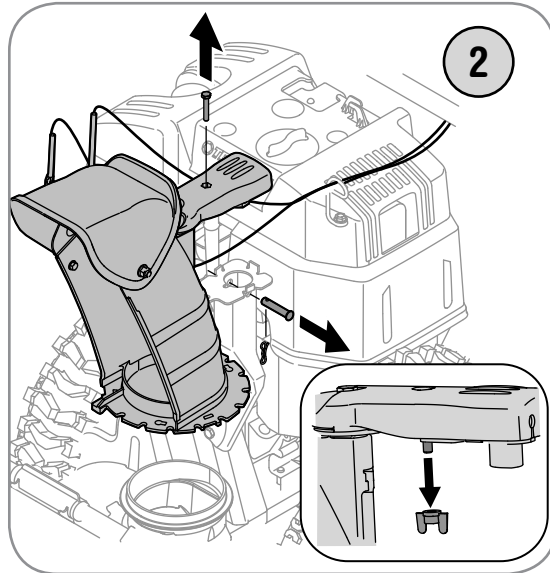

Figure 2
2. Remove wing nut and hex screw from chute control assembly and clevis pin and cotter pin from chute support bracket. See Figure 2. Position the chute assembly (forward-facing) over the chute base.